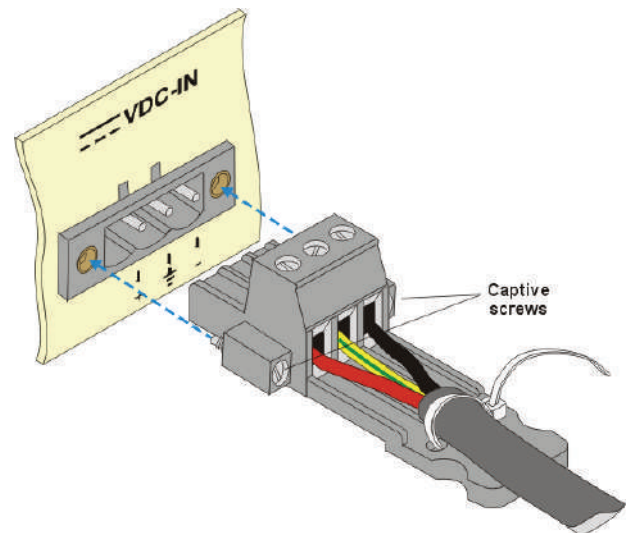

Figure 4. TB Plug with Captive Screws (optional)
Note: Certain TB plugs are equipped with captive screws for securing the assembled cable's TB plug to the unit's VDC-IN connector (C and E types only). To secure the plug, tighten the two screws on the sides of the input connector as shown in Figure 4.
1. If the TB plug is equipped with captive screws, loosen the captive screws (see Figure 4).